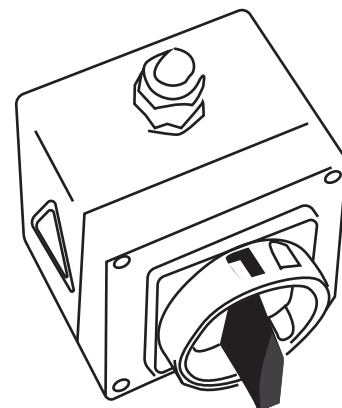

FIGURE 2
6.1.2 Start the motor by turning the red switch on the starter box(**FIGURE 2.**). Lower the grinding plate and begin grinding. Keep the grinding head moving side to side on the work surface to create an evenly ground surface until the desired results are reached.